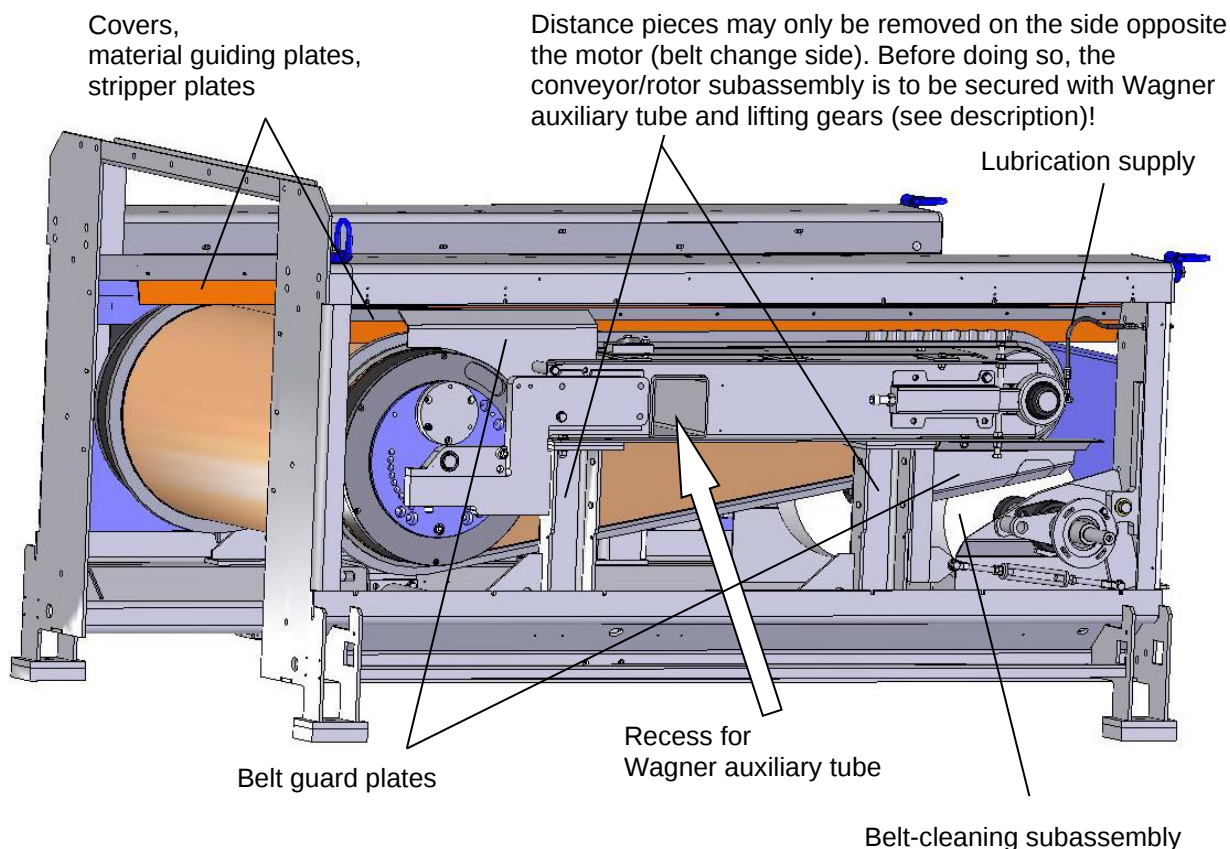

Fig. 20
- Remove the covers on the sides as well as the upper material guiding plates including stripper brushes, the belt guard plates and the lubrication supply (fig. 20).
- Push the Wagner auxiliary tube into the recess on the frame (figs. 20 and 20a). Follow all the instructions on customer drawing ZK.... which is delivered with the auxiliary tube. In case of large non-ferrous separators, the auxiliary tube is supported by a strut. Fix it to the frame.
Fig. 20 a